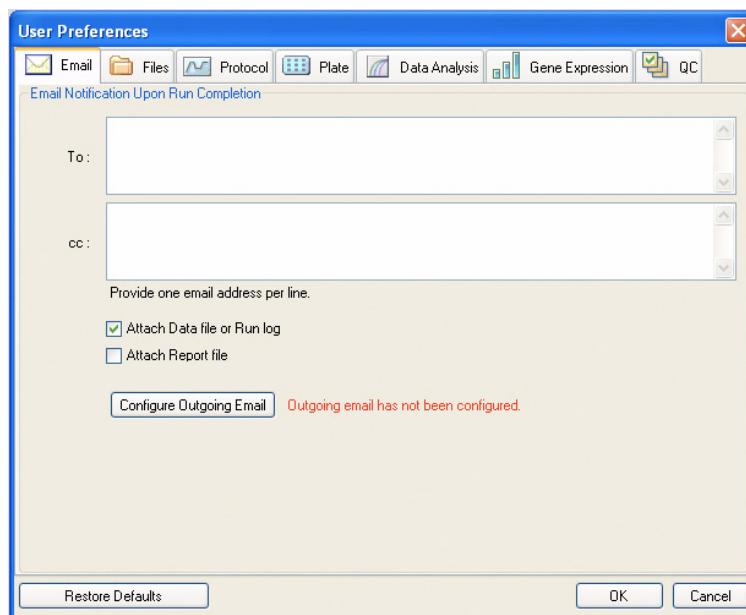

Figure 82. User Preferences window with tabs.
- Click one of the tabs (Figure 82) to view or change preferences
Select the **Email** tab (Figure 82) to enter the email addresses where you want to receive confirmation of the completion of the run. The software can send an attached data file or report file with the email when the check boxes next to these options are checked.